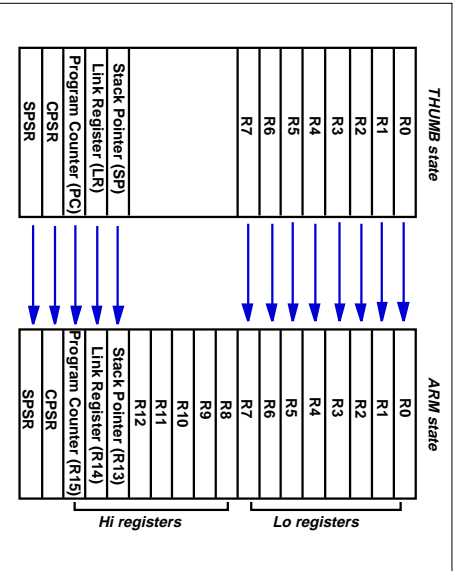

Figure 3-5: Mapping of THUMB state registers onto ARM state registers
- This relationship is shown in Figure 3-5: Mapping of THUMB state registers onto ARM state registers.